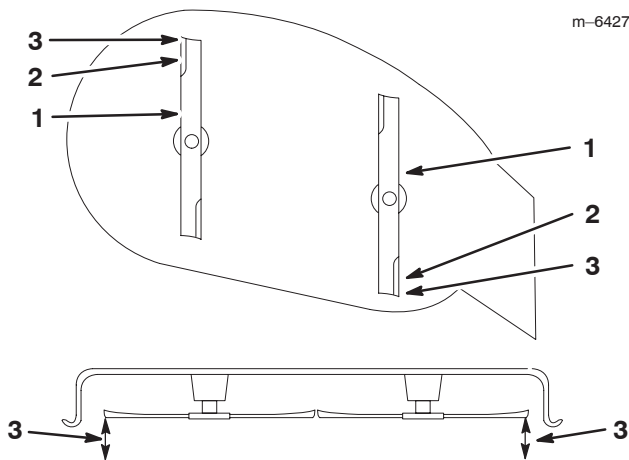

Figure 40
- Set the height-of-cut at position 3 [3 inch (76 mm)] and carefully rotate the blades so they are facing front to rear (Fig. 40).
- Measure from the tip of the front blade to the flat surface and the tip of the rear blade to the flat surface (Fig. 40). If the front blade tip is not $1/16$ – $5/16$ inch (1.6–7.9 mm) lower than the rear blade tip, adjust the front locknuts.